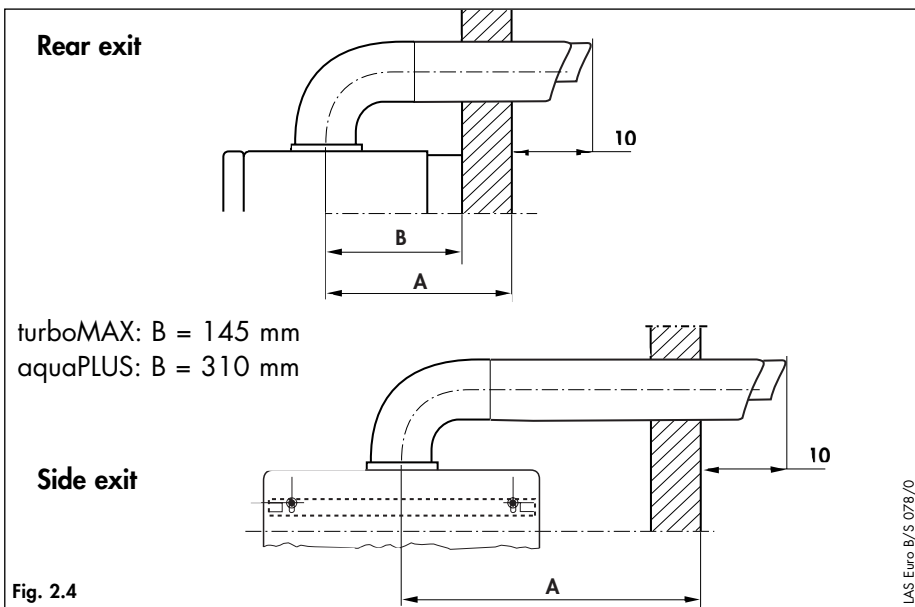

Fig. 2.4
- Cut the air duct and flue duct to the lengths shown in figure 2.4.
- If using the telescopic horizontal air/flue duct and terminal accy. 303806 simply adjust the length as shown in Fig 2.4. Secure the air duct sections together by drilling a 3 mm diameter hole through the location hole in the end of the outer air duct. (Ensure that the drill does not pierce the inner flue duct). Secure the air ducts together using the screw provided.